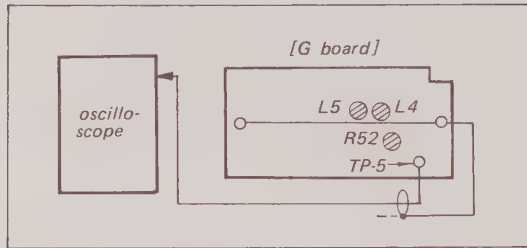

Fig. 8-27. Color mode Y level adjustment test setup
3. Connect the scope probe to TP-5 on the G board. See Fig. 8-27.